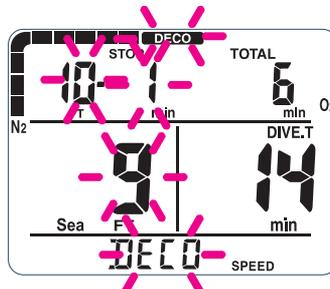

Figure 32
**Decompression dive warning:** If the NDL is 0 and a decompression dive is entered, the diver is alerted with a warning, followed by the decompression information display. Once the dive becomes a deco dive the PGT bar graph, DECO icon, and “DECO” indicator blink for 15 seconds. The sound or vibrating alarm will operate twice for three seconds. The information is recorded in the log. (Fig. 32)